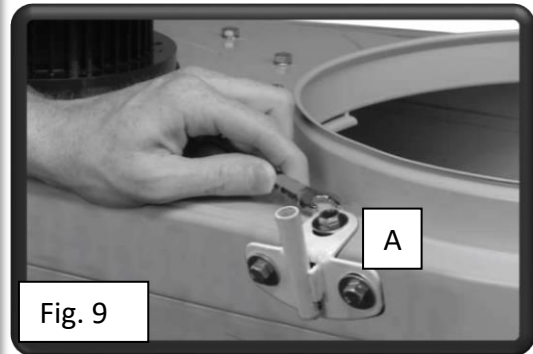

Fig. 9
- 2) Position the bracket (A) on the dust collector (fig. 9).